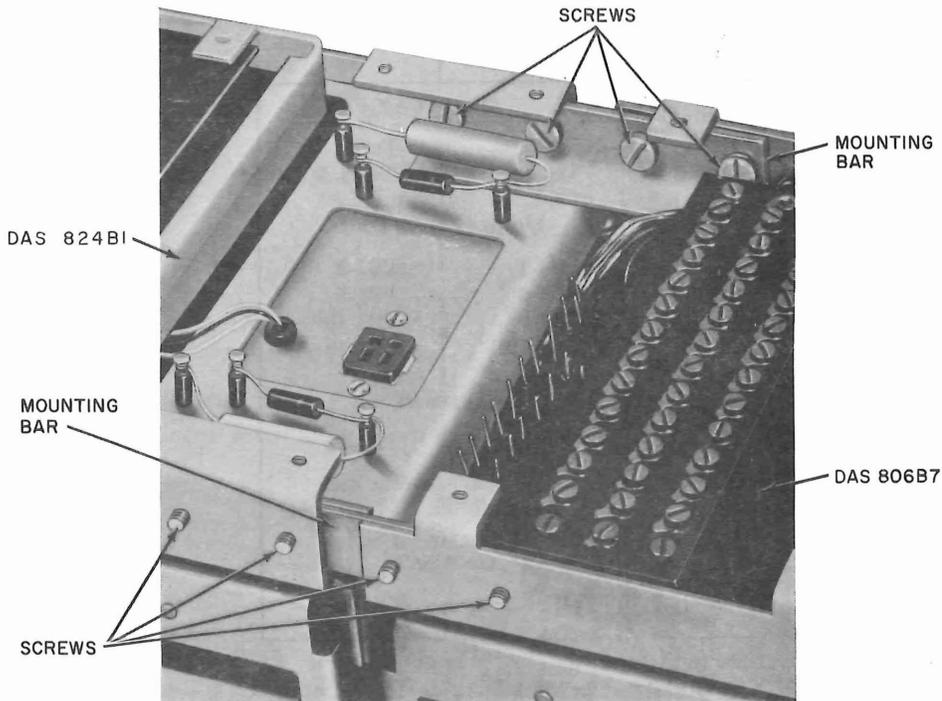

Fig. 7—Assembly of Data Auxiliary Set 824B1 and Data Auxiliary Set 806B7
2.11 Fasten a DAS 824B1 or B3 to DAS 806B7, using the two mounting bars (P46M668) and eight screws supplied with the 87-type mounting brackets, as shown in Fig. 7. The two units may